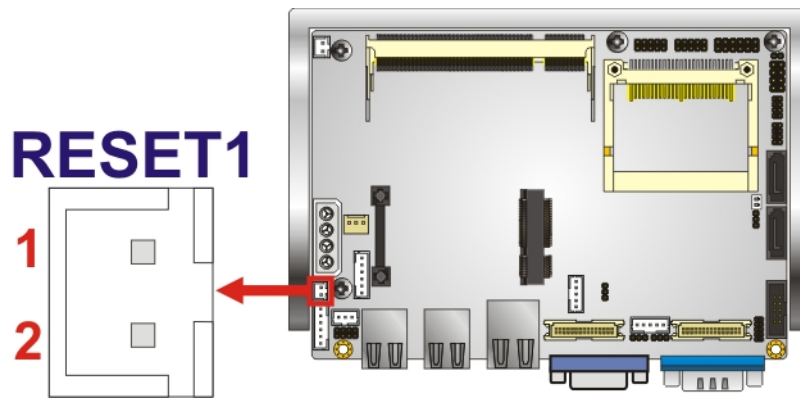

Figure 3-17: Reset Button Connector Locations
- CN Location:** See Figure 3-17